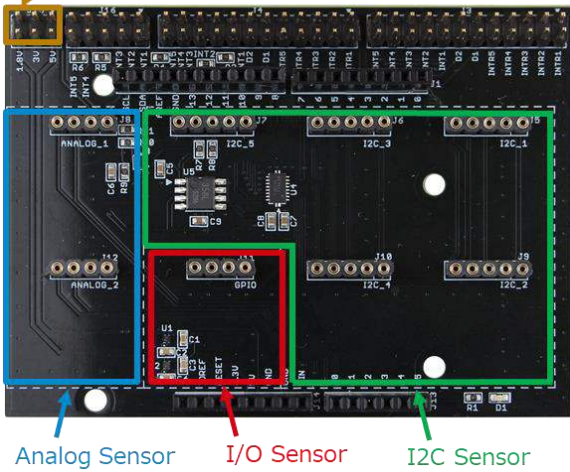

Figure 4. Voltage settings and Connection of the Sensors
2. Check the connection type of ROHM Sensor Board and connect it to the corresponding type on the SensorShield (Figure 4)
- Set voltage of the SensorShield to the corresponding supply voltage range of each ROHM Sensor Board. (Figure 4)